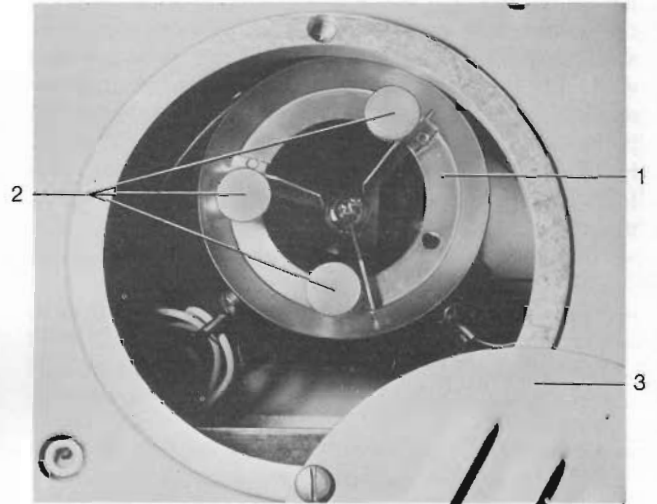

Fig. 12-3 Changing the Picture Lamp for Reflection-copy Scanning
12.3. Changing the Picture Lamp for Reflection-copy Scanning (Figs. 12-3 + 4)
- Release the SCANNING LIGHT SOURCE ON pushbutton (101).
- Turn the upper cover (Fig. 12-3/3) aside so that the clearance is exposed. Unscrew the sheet cover on the right-hand side of the scanning head (seen from behind).
- Turn out the three knurled-head screws (Fig. 12-3/2) which hold the support (Fig. 12-3/1) for the halogen lamp and withdraw the support from the lamp bulb.
- Pull the support (Fig. 12-3/1) over the bulb of the new lamp and fasten in with the knurled-head screws (Fig. 12-3/2).